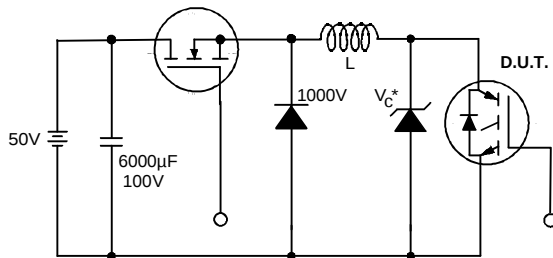

Figure 19. Clamped Inductive Load Test Circuit
- ② $V_{CC}=80\%(V_{CES})$, $V_{GE}=20V$, $L=10\mu H$, $R_G=10\Omega$ (figure 19)
- ③ Pulse width $\leq 80\mu s$; duty factor $\leq 0.1\%$.
- ④ Pulse width 5.0 μs , single shot.